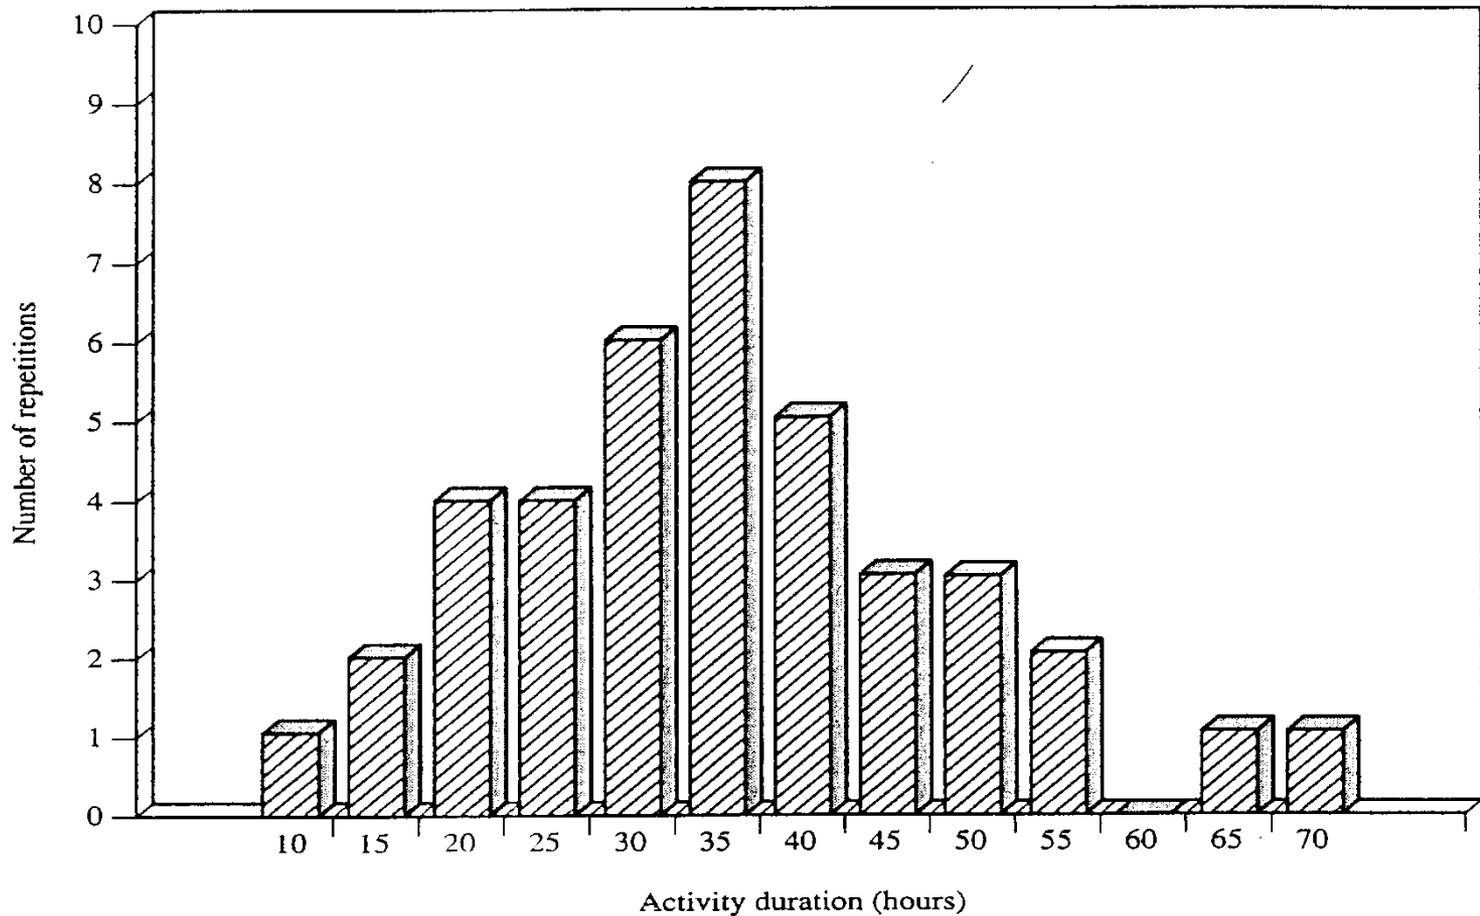

Fig 1. Frequency distribution of activities
- For our example (Figure 1), we have $a=10, b=70, m=35$.